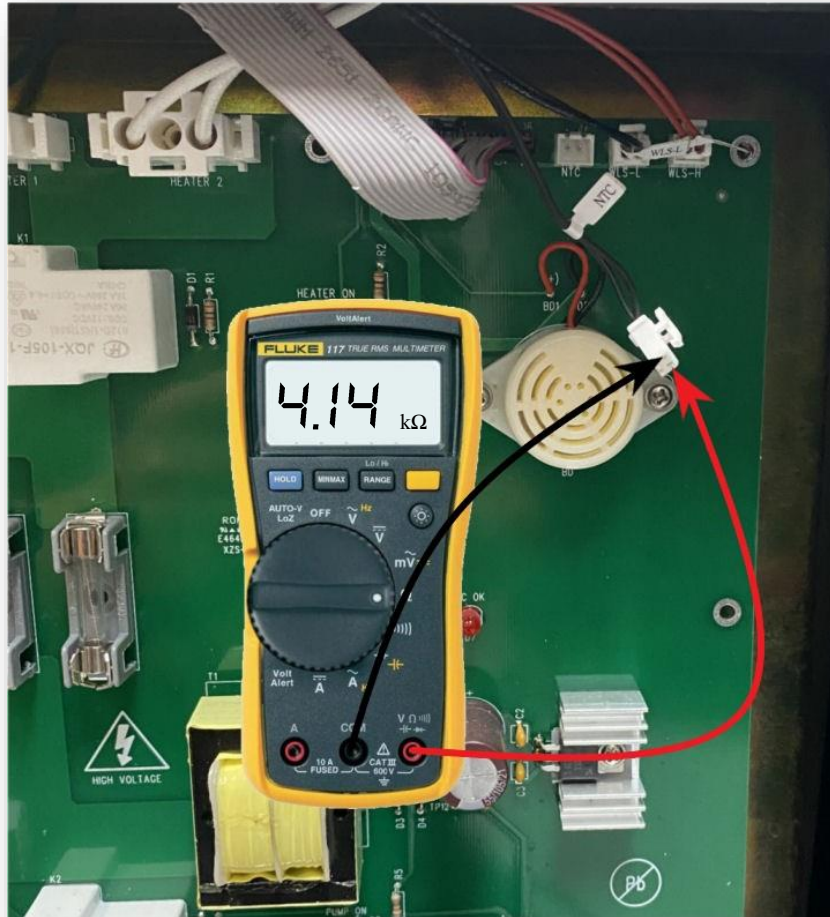

Figure 32 – Temperature Sensor Resistance at 50°C
- a. With the SCA at room temperature, remove the NTC connector from the PCB (**See Figure 32**).